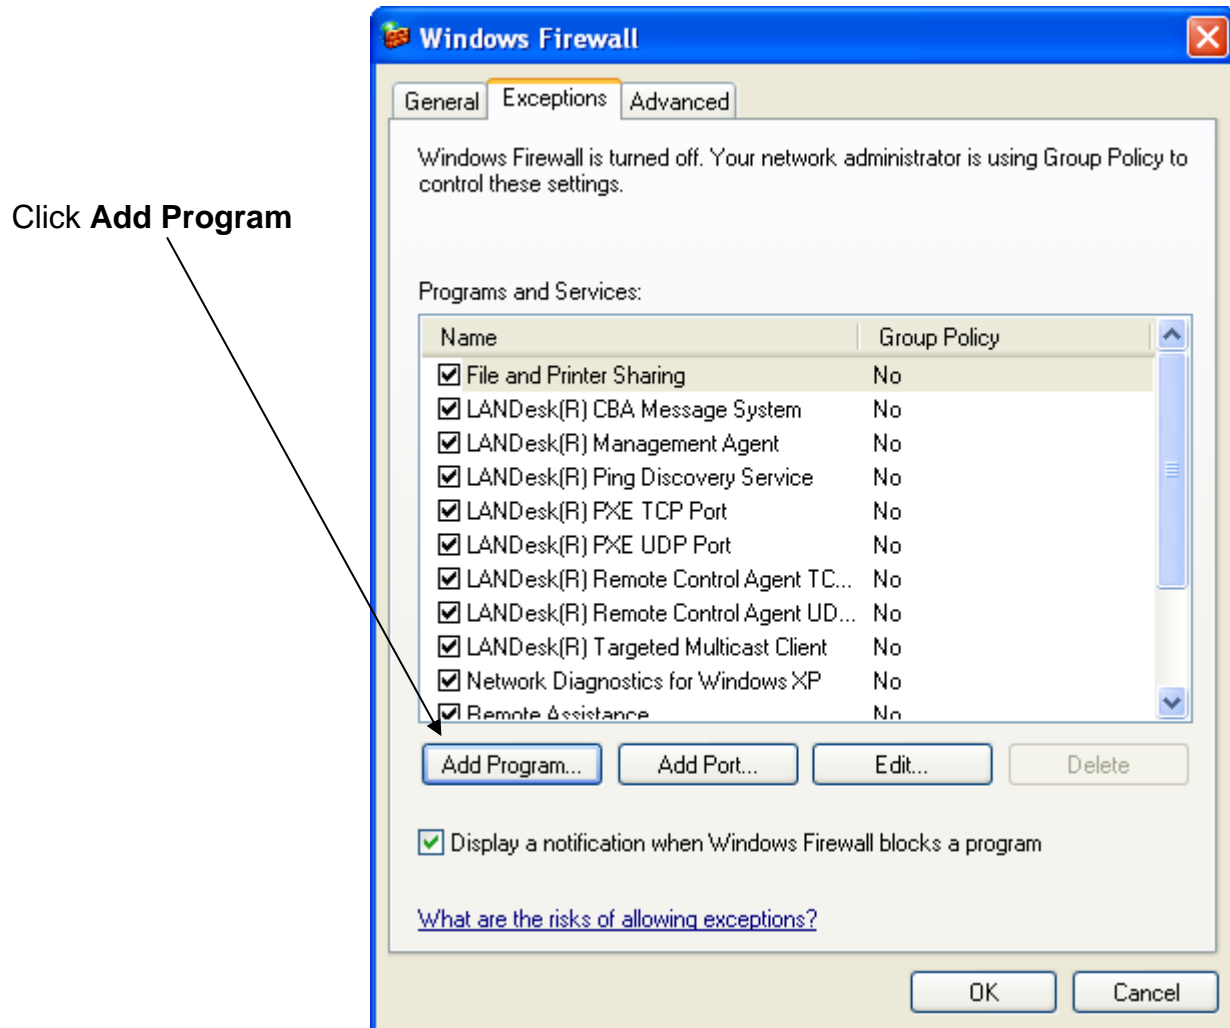

Figure 2-25. Windows Firewall Exception tab
2. On the **Exceptions** tab of the Windows Firewall dialog box, click **Add Program** (see *Figure 2-25*.)